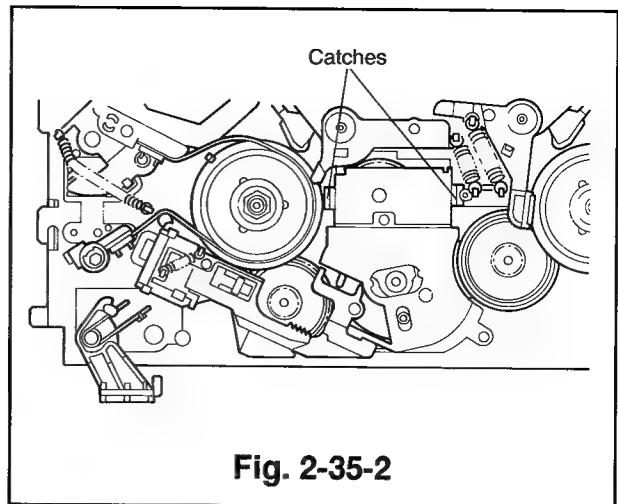

Fig. 2-35-2
- ① Remove the reel belt and the belt pulley. (Refer to Para. 2-28 for the removal method.)
- ② Remove the two screws (a) and (b) holding the reel idler assembly.
- ③ Unfasten the two catches shown in Fig. 2-35-2 and push the reel idler assembly to remove it, with the deck right side up.